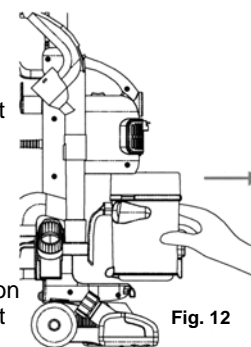

Fig. 12
2. Remove the dust cup from the vacuum. (Fig. 12)